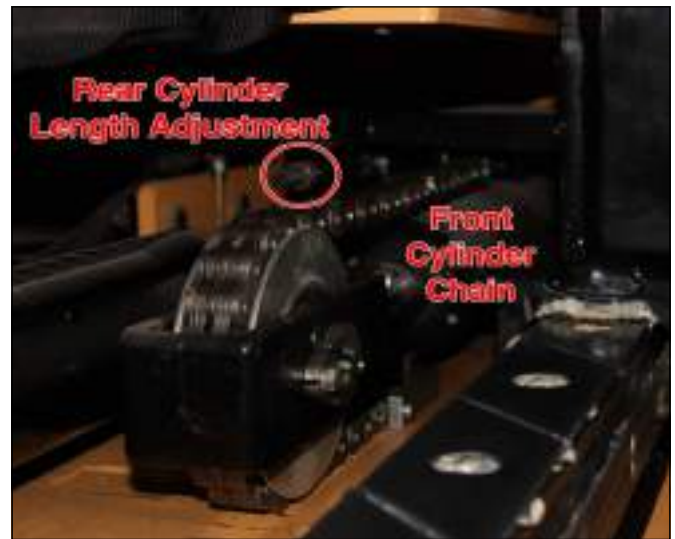

Figure 6-18 Sideshift Chain Adjustment
7. Move the mast all the way to the right. The full travel length (right to left) should be set at 20". See Figure 6-17. This rear side shift cylinder is adjusted to achieve this travel by adjusting the length of the chain. See Figure 6-18.
8. When finished, apply removable thread locker to the adjustment nuts of both the front and the rear cylinder chain adjusters and to the cylinder clevis lock bolts. See Figures 6-18 and 6-19.